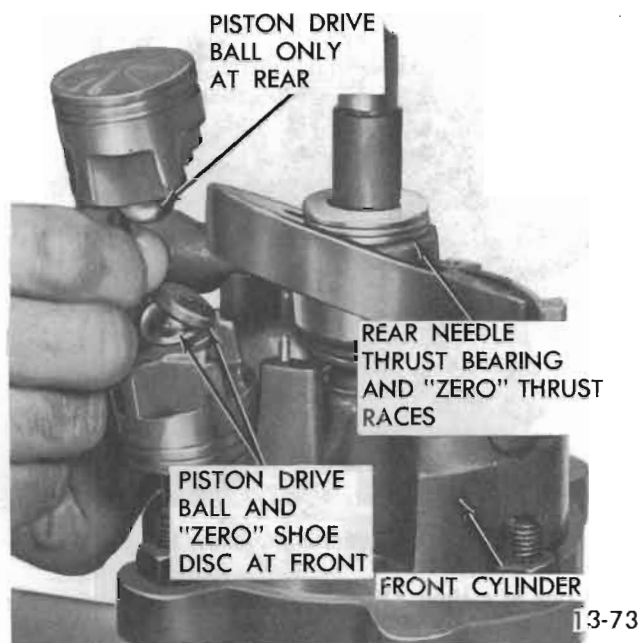

Figure 13-48 Installing Piston into Cylinder Half
7. Rotate shaft and swash plate assembly until high point of swash plate is over No. "1" cylinder bore. Position No. "1" piston onto swash plate (see Figure 13-48) and lower the piston and swash plate so the front end (notched end - see Figure 13-48) of the piston enters the cylinder bore.